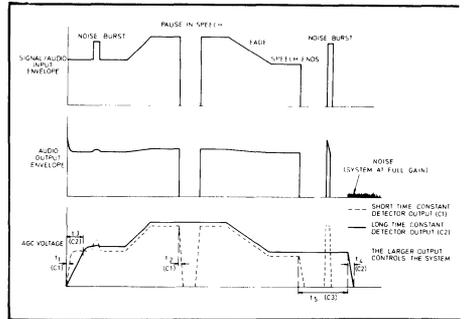
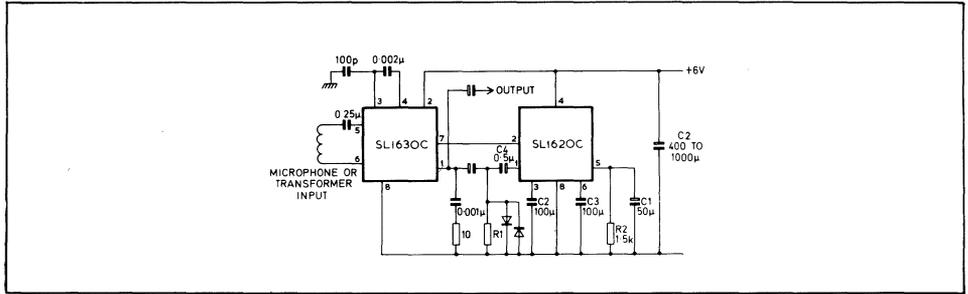

Fig. 3 Dynamic response
Fig. 5 SL1620C used to control an SL1630C audio amplifier
*See Fig. 3
The operation of the SL1621C is described with reference to the circuit diagram, Fig. 2 and Fig. 3 which illustrates the dynamic response of a receiver controlled by the SL1621C.
The detected audio signal at the input will rapidly establish an AGC level, via TR14, in time t_1 (see Fig. 3). Meanwhile the long time constant detector output will rise and after t_3 will control the output because this detector is the more sensitive.
Fig. 3 shows how a noise burst superimposed on speech will initiate rapid AGC action via the short time constant detector while the long time constant detector effectively remembers the pre-noise AGC level.
Fig. 5 shows how the SL1620C is used to control the gain of the SL1630C audio amplifier. The operation of the SL1620C is exactly the same as that of the SL1621C and the diagram showing the dynamic response of the closed loop system, Fig. 3, is equally applicable to the SL1630C/SL1620C combination. Again, the time constant may be altered by varying the capacitor values.